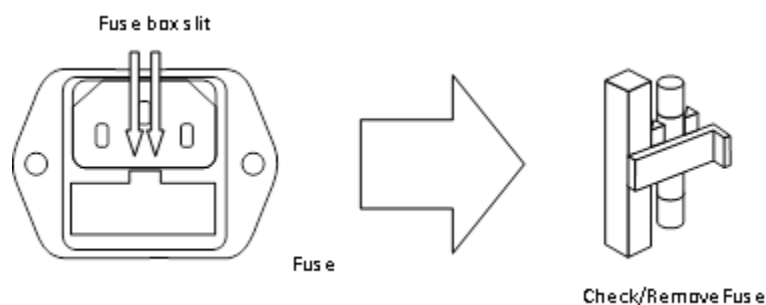

Figure 1.3 Fuse Holder
2. Locate the fuse box in the rear panel, beneath the AC power socket. **Figure 1.3**